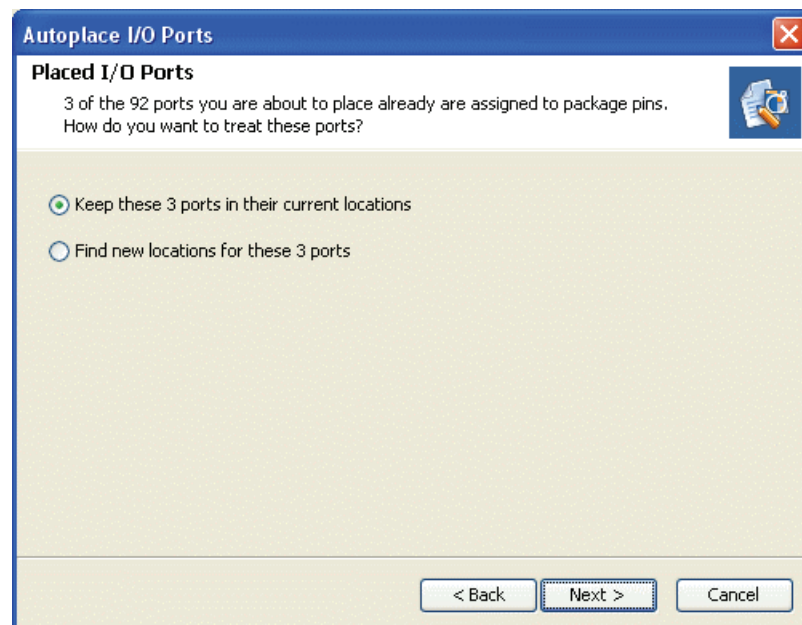

Figure 8-25: Autoplace I/O Ports Wizard
4. If you select I/O ports that have already been assigned to package pins, the dialog box opens, as shown in Figure 8-25.